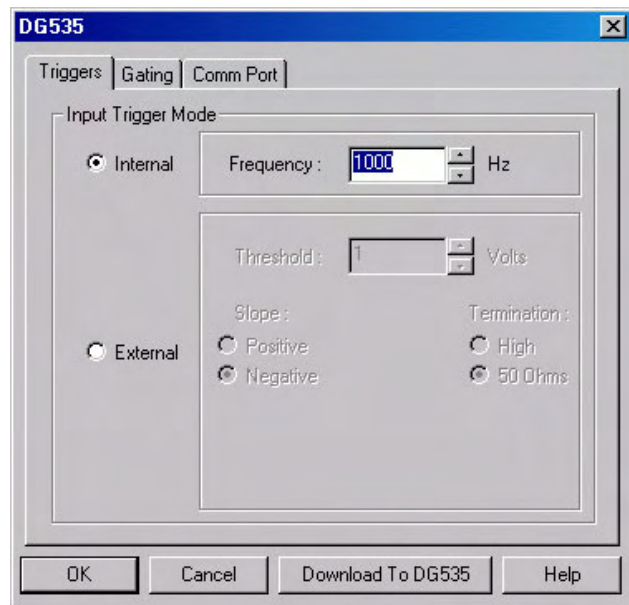

Figure 135. DG535 Triggers tab page
8. Click on the **Triggers** tab (Figure 135).